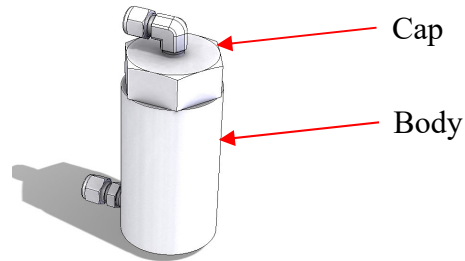

Figure 37: Pressure Snubber
- d) Rigidly affix the body and unscrew the cap. See Figure 37.